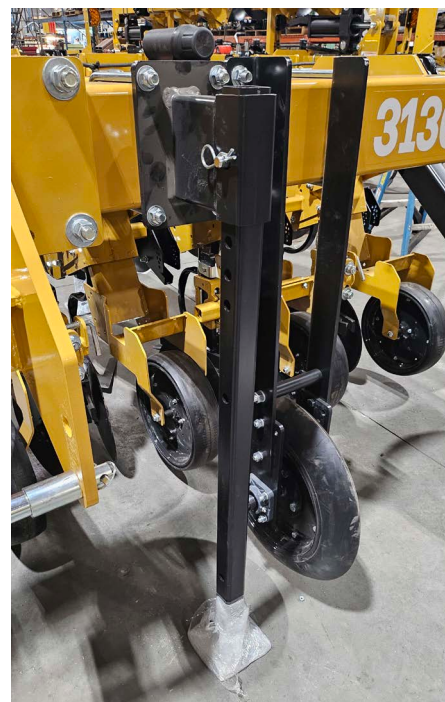

Figure 12 Front Parking Stand Lowered and Pinned
6. Lower front parking stands to the ground and pin in position so that parking stands will be vertical when the tractor is removed. See Figure 12.